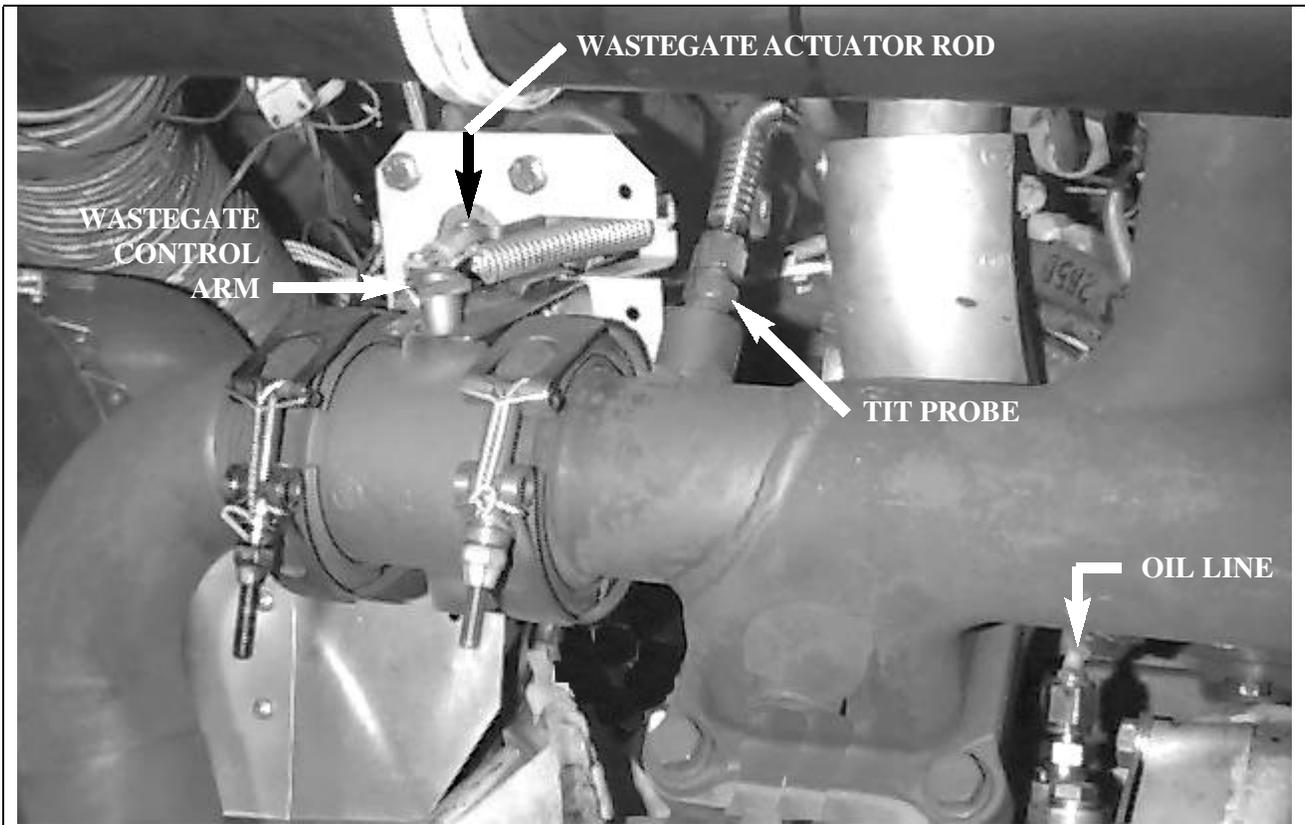

Figure 81-2. Wastegate Installation
**3. ADJUSTMENT. (Refer to Figures 81-2 and 81-3)**